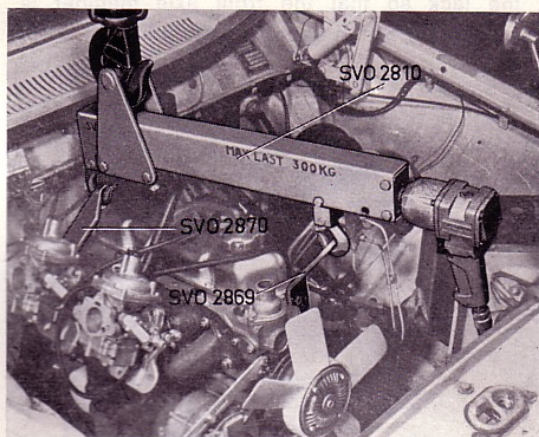
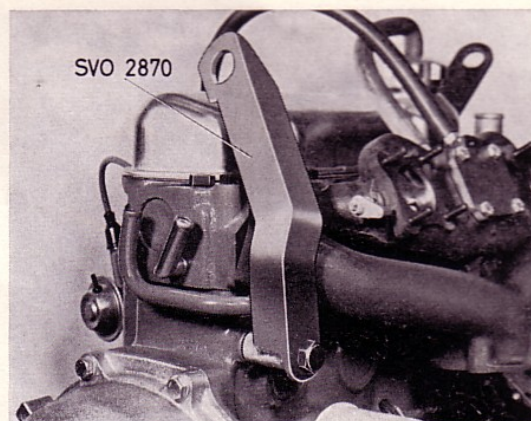
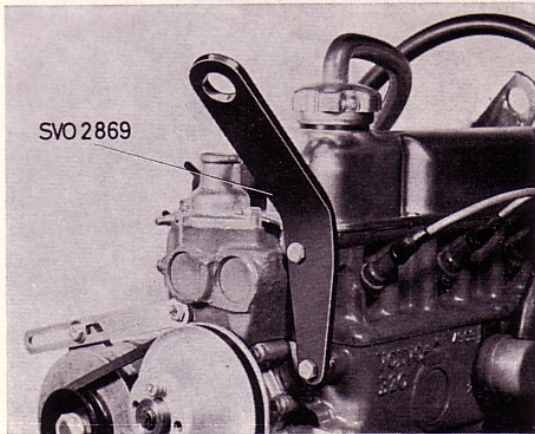

Fig. 13 Lifting out the engine
Fig. 14 Fitting lifting lug on engine rear end
Fig. 15. Fitting lifting lug on engine front end
20. Fit lifting lug SVO 2870 as shown in Fig. 14. and lifting lug SVO 2869 according to Fig. 15. The lifting lug is attached by 2 bolts 3/8" UNC-1"- resp. 1 1/4". Fit on lifting tool SVO 2810 according to Fig. 13 and lift out the engine.
1. Fit on the lifting lugs and beam according to Figs. 14, 15 and 13.
9. Adjust the clutch play according to Part 4 (41) "Adjusting the clutch pedal play".